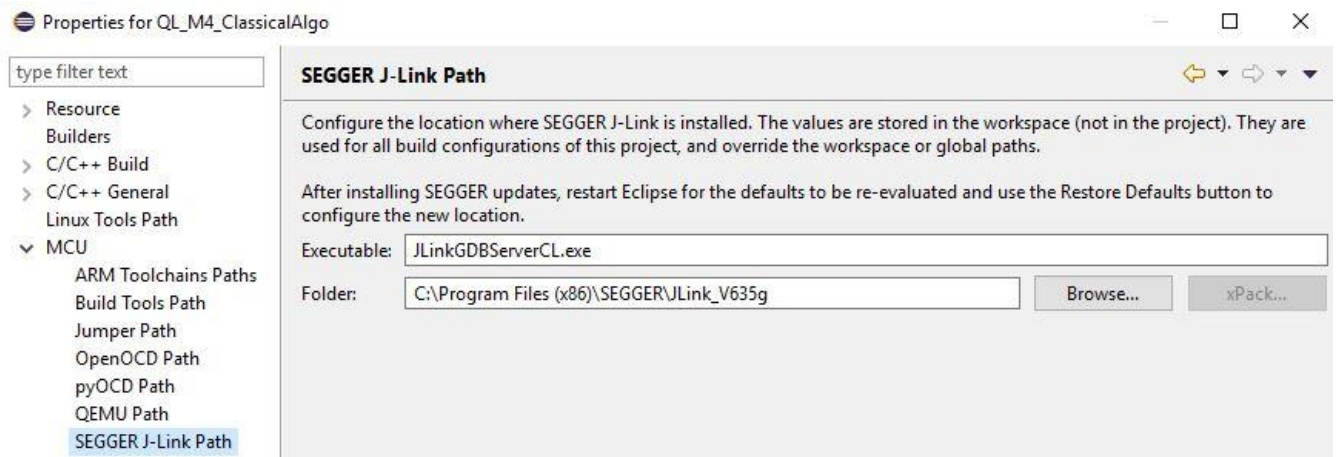

Figure 11 SEGGER J-Link Path
8. Next, in the **SEGGER J-Link path**, browse to the folder where **JLinkGDBServerCL.exe** is located (Figure 11) and click on Apply.